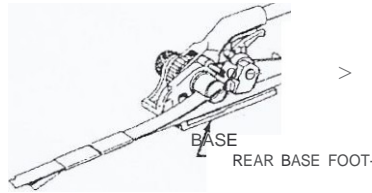

FIGURE 2.
2. Insert lower strap in opening between gripper and base of tensioner until the strap is fully in contact with the inner wall of the base. Make sure that the lower strap is inserted over the rear base foot. Insert top strap fully into windlass slot. Approximately 2 to 4 inches should extend beyond windlass; cut off any excessive length before tensioning. See figure 2.